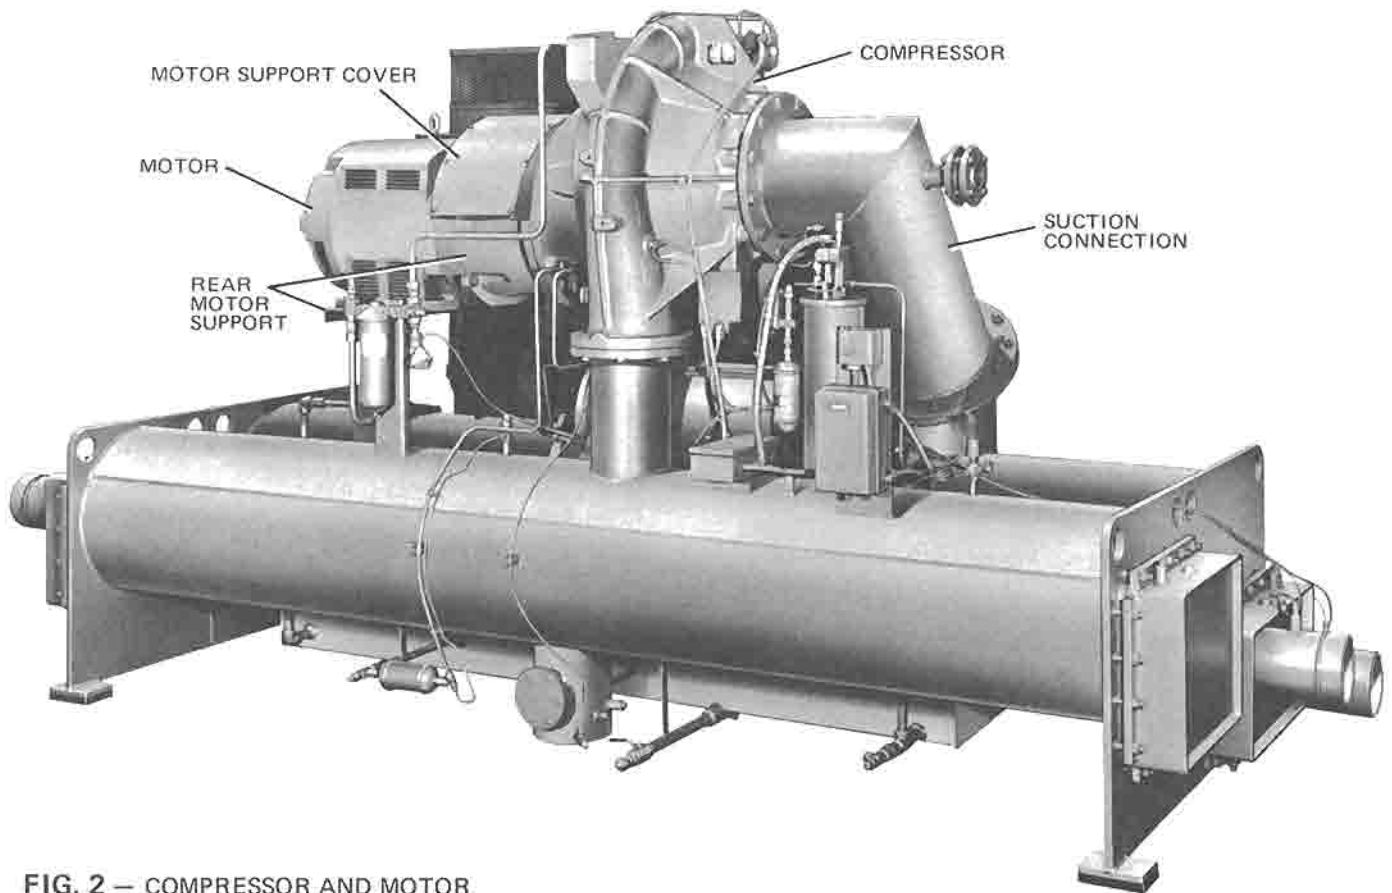

FIG. 2 — COMPRESSOR AND MOTOR
3. Line up holes in the face of the motor with guide pins in the compressor motor support. Place the 4-hex. hd. cap screws and through the compressor motor support and screw into the tapped holes on the motor, (but do not fully tighten screws). Make the shaft of the motor line up with the compressor shaft. (Refer to Fig. 2.)